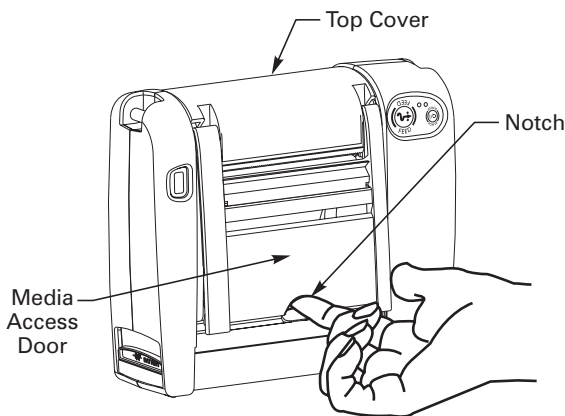

Figure 4
1. Refer to Figure 4. Raise the media access door by lifting at the notch until it unhooks from the top cover.
1. Raise the media access door by lifting at the notch until it unhooks from the top cover (refer to Figure 4).